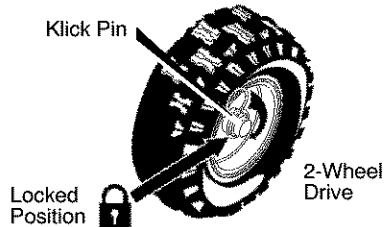

Figure 10
1. The right hand wheel is secured to the axle with a **klick pin**. This unit was shipped with this klick pin in the **locked position (through wheel hole)**. See Figure 10.